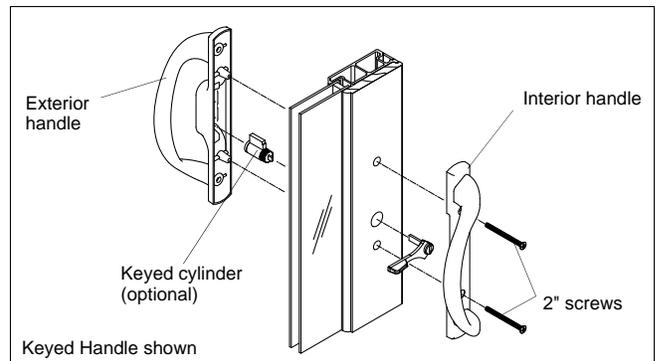

Figure 6
6. If the handle has a keyed cylinder, insert it into the door stile. Place the exterior handle on the door with grip pointed toward the glass. Insert the lock lever into the interior stile. Place the interior handle on the door with the grip pointed toward the glass. Install the 2" machine screws through the handles and tighten. See figure 6.